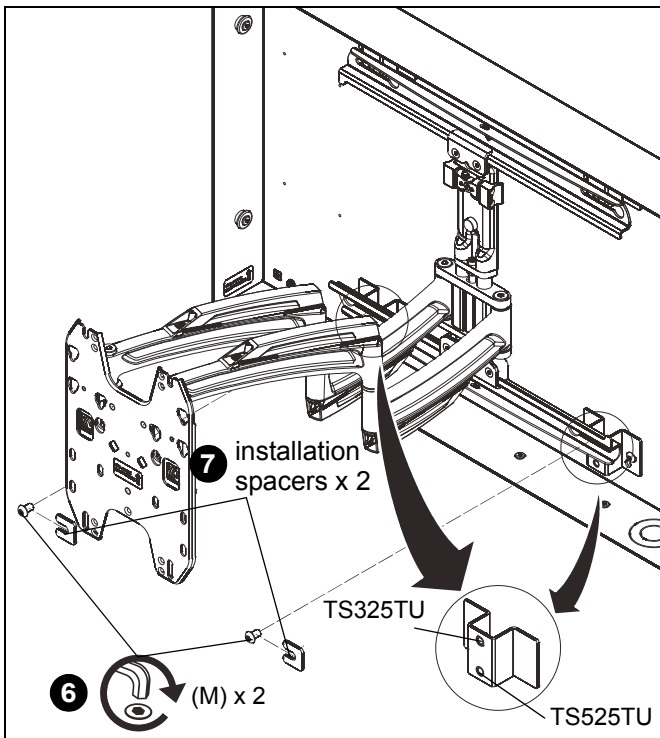
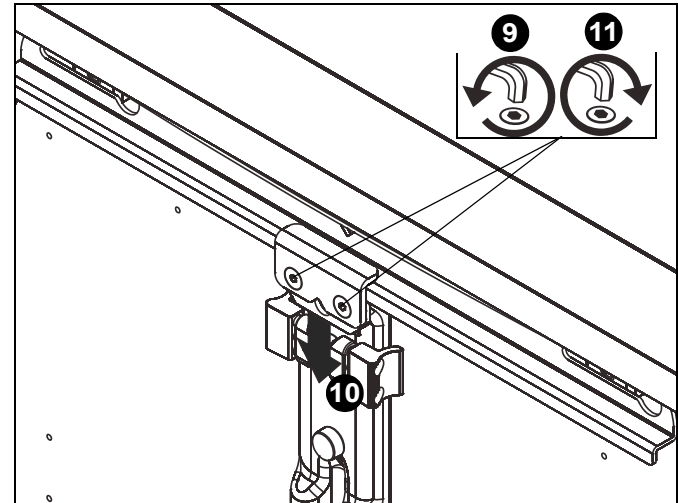

Figure 11
Figure 12
6. Use two 5/16-18 x 1/2" button head cap screws (M) to loosely attach lower wall plate of TS325TU/TS525TU assembly to lower attachment brackets (N). (See Figure 11)
IMPORTANT ! : Install to lower bracket holes for TS525TU and upper bracket holes for TS325TU. See inset on Figure 11.
7. Place two installation spacers (included with TS325TU/TS525TU) over two 5/16-18 x 1/2" button head cap screws (M). (See Figure 11)
8. Tighten two screws (M) to secure lower wall plate to lower attachment brackets.
9. Loosen flat head cap screws on upper carriage rail in order to loosen white spacer. (See Figure 12)
10. Remove white spacer from mount. (See Figure 12)
11. Tighten flat head cap screws. (See Figure 12)